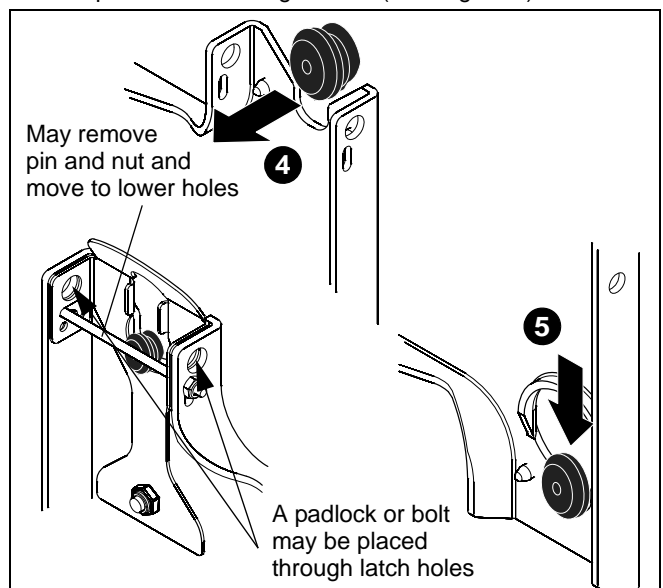

Figure 8
**NOTE:** Holes are provided in the faceplate for use with a padlock or similar locking device, if desired. In addition, the pin and nut may be removed from the upper holes and moved to the lower holes for use as a more permanent locking device. (See Figure 8).